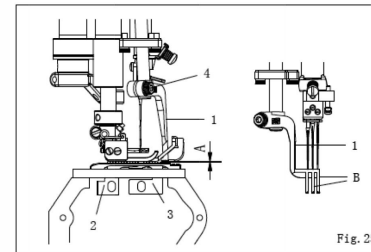

Fig. 25
3. 调节时，拧松螺丝 4，并将上送布牙 1 向上或向下移动。上送布牙 1 不能触碰压脚，并准确地嵌入压脚槽 B。调节后，请拧紧螺丝 4。(图 25)
- c. When adjusting, loosen the screw 4 and move the upper feed dog 1 up or down. The upper feed dog 1 shall not touch the presser foot, and shall be accurately embedded into the presser foot groove B. After adjustment, tighten screws 4. (Fig. 25)